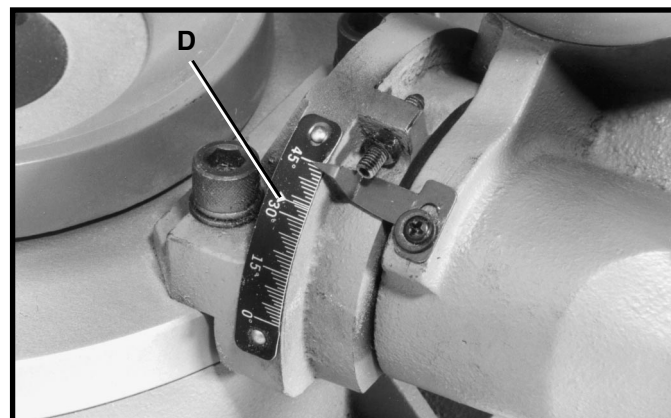

Fig. 17
In addition, a triangle indicator (D) Fig. 17, is provided on the scale at the 33-7/8 degree bevel angle for cutting crown moulding. Refer to the **CUTTING CROWN MOULDING** section of this manual.